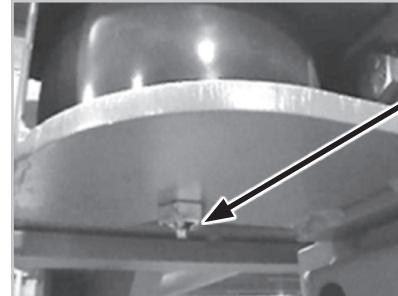

Figure 90
- Grease the guide wheels (Figure 90).